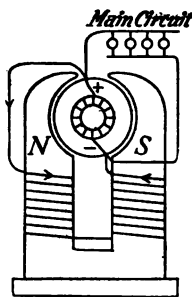

FIG. 286.—A shunt-wound dynamo.
B. The *shunt wound dynamo* (see Fig. 286) sends a part only of the current produced through the field coils. The latter are of many turns of fine wire so as to use as little current as possible. The greater part of the current going to the main circuit. If the number of lamps or